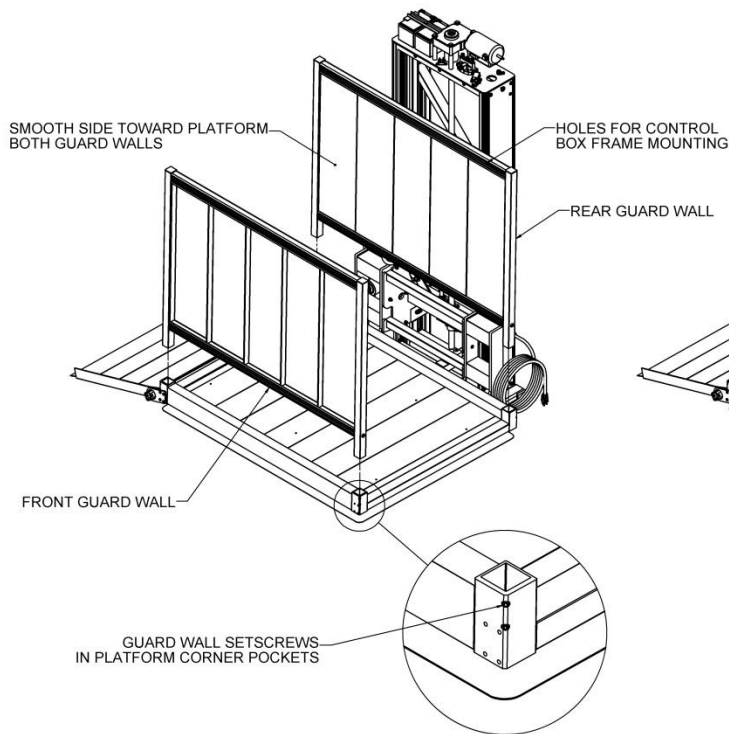

FIG. 4.7
10. Install the guard walls with the smooth side toward inside of the platform as shown (FIG. 4.7).